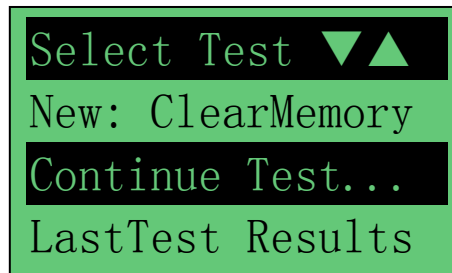

Figure 48
3. It will run through a self-test and when completed it displays the Main Menu as shown: (Fig. 48)